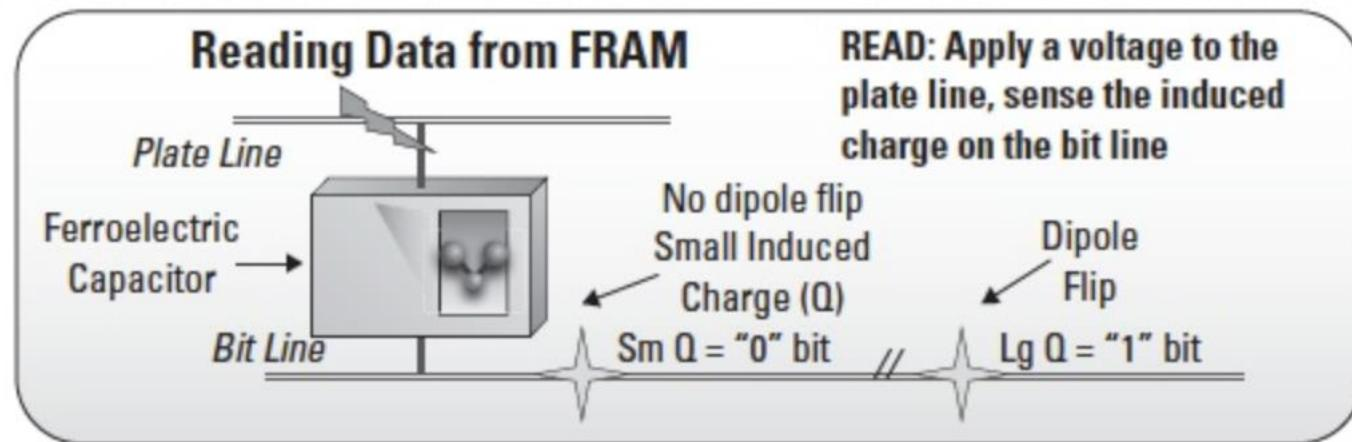

Figure 2-10. Reading a FRAM cell
- To read the data from a FRAM memory cell, a voltage is applied to the plate line; the key here is that you are applying a voltage to the plate line. The voltage causes dipole flip if the cell was previously in a 1 state. If there is no dipole flip, a small induced charge (Q) is present on the bit line, corresponding to a 0 bit. If there is a dipole flip, a large induced charge (Lg Q) is present on the bit line, corresponding to a 1 bit (see Figure 2-10).
- If the orientation of the cell is such that the polarization of the ferroelectric capacitor is parallel to the plate line, then a small induced charge (Q) is present on the bit line. If the orientation of the cell is such that the polarization of the ferroelectric capacitor is antiparallel to the plate line, then a large induced charge (Lg Q) is present on the bit line.